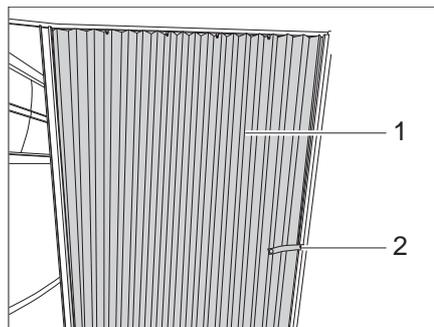

Fig. 86 Folding door
- Release the securing strap (Fig. 86,2).
- Pull the folding door (Fig. 86,1) into the closing position.
- Push the folding door (Fig. 86,1) into the open position.
- Secure the folding door with the securing strap (Fig. 86,2).